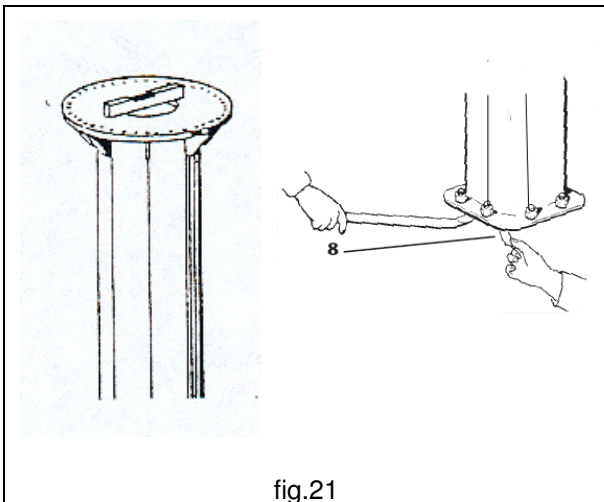

fig.21
5. Check the verticality of the rotation axis by using a level **L** resting directly on the thrust bearing flange or, when installed, on the thrust bearing itself in order to check the right planarity. The perfect plumbing can be obtained, if necessary, inserting suitable shims corresponding to the log bolts, under the base plate.(fig.21)